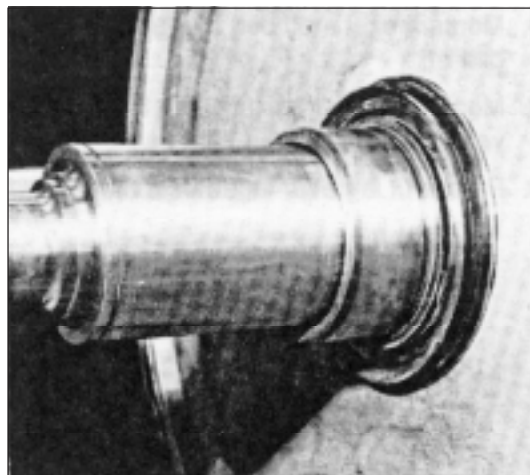

Figure 14. Installation of bearing race
30. Heat the new bearing race to approximately 150°C and then install, see figure 14.